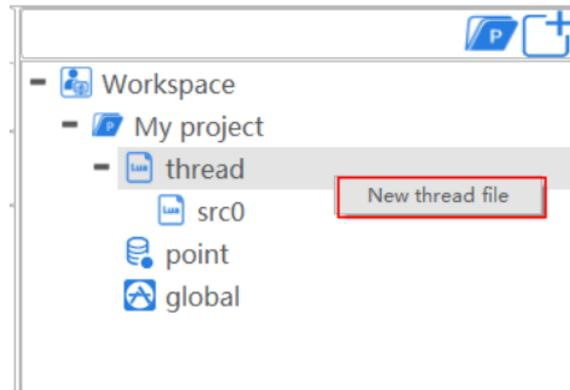

Figure 3.37 Create a project
Step 6 Set the number of threads based on site requirements, as shown in Figure 3.37. Click **thread** and right-click **New thread file**.